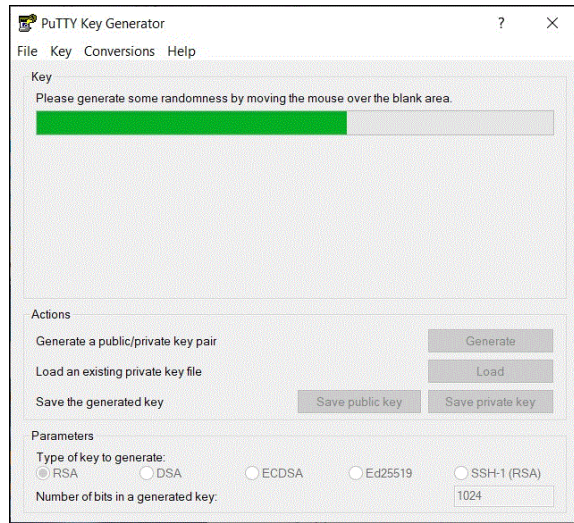

Figure C-2 Generating keys
2. Click **Generate** and move the cursor over the blank area to generate keys (see Figure C-2).